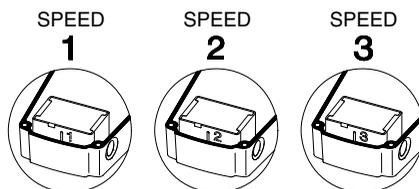

Fig. 14 Speed selection
3. Pull out the speed switch module, and insert it so that the number of the required speed is visible through the window in the terminal box. See fig. 14.